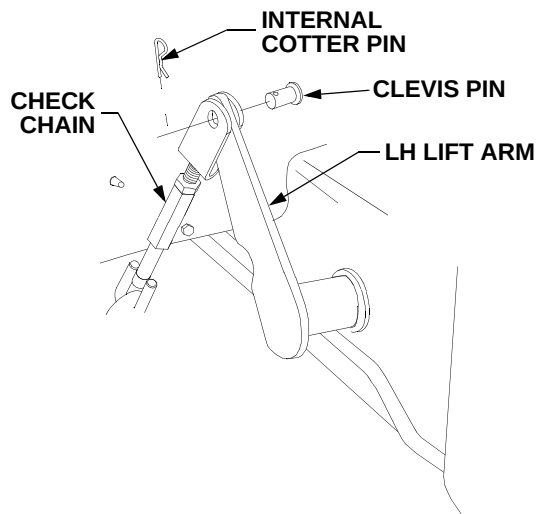

Figure 56
- Disconnect the check chain from the LH lift arm by removing the internal cotter pin and clevis pin. Reinstall the clevis pin and internal cotter pin in the check chain to avoid their loss. See Figure 56.
- Slide the check chain of the deck over the LH lift arm. Align the holes, insert the clevis pin, and secure with the internal cotter pin. Refer to Figure 56.